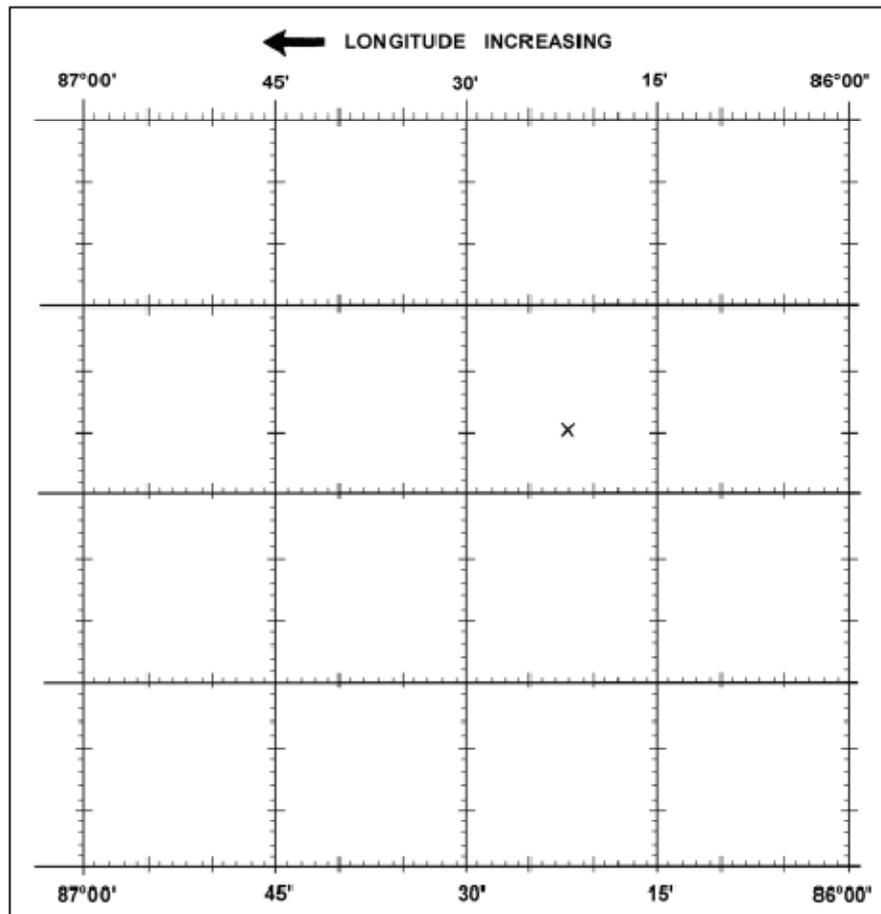

Figure 011-141-0001-2. Degrees and minutes of longitude.
3. Locate degrees and minutes of longitude (figure 011-141-0001-2).